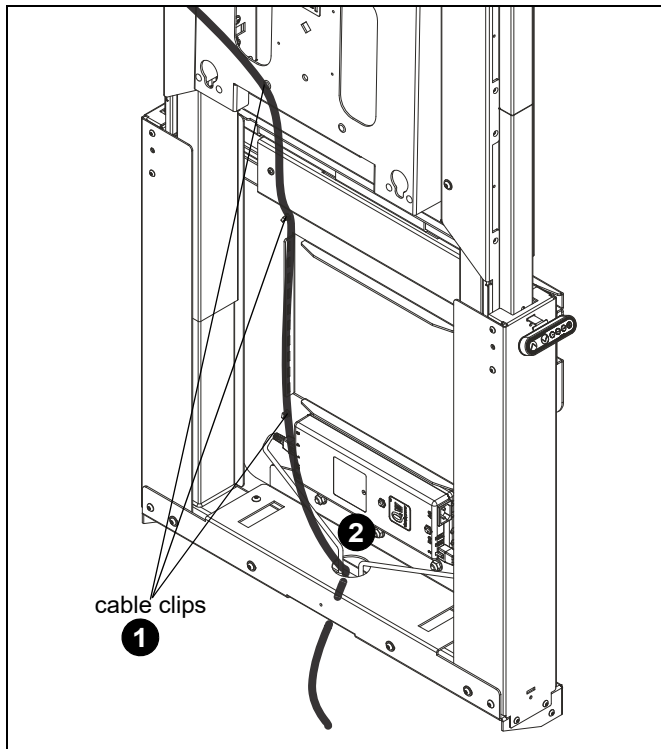
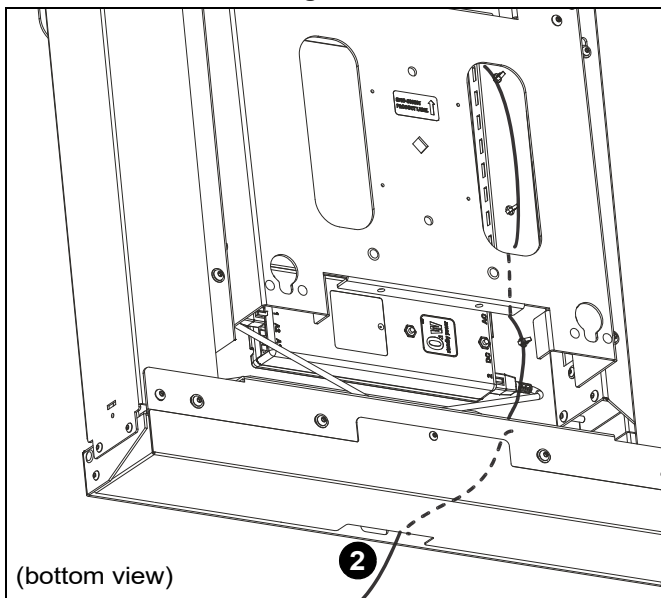

Figure 42
Figure 43
1. Use cable clips and/or cable ties (C) to route cables as desired. (See Figure 42)
2. Route cables through opening on bottom cover if a power box is not installed behind the mount. (See Figure 42) and (See Figure 43)